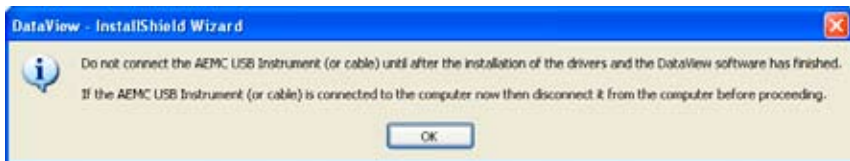

Figure 5-3
10. If the feature selected for installation requires the use of a USB port, a warning box will appear, similar to Figure 5-3. Click **OK**.